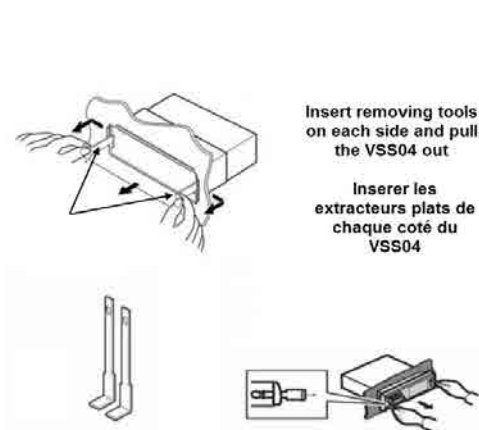

Fig.4 VSS removal with flat removing tools. faces.
5. Insert two (2) flat radio removing tools in the vertical openings located on both sides of the sound selector front panel and pull out the sound selector (Fig.4 and Fig.5).